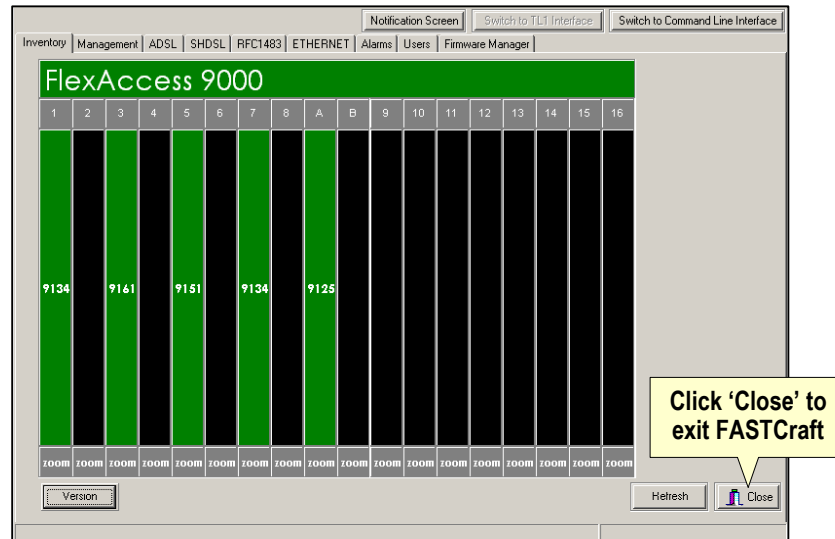

Figure 27 – Exiting FASTCraft
- 2 Click **Close** from most **FASTCraft** screens (Figure 27).